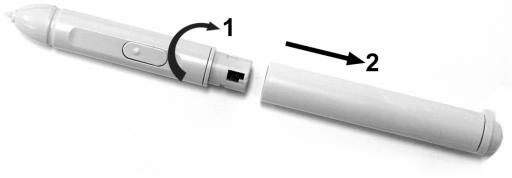

Figure 18
1. Rotate the battery pen as the direction (1) as shown in **[Figure 18]**.
2. Gently pull the battery cover off as the direction (2).